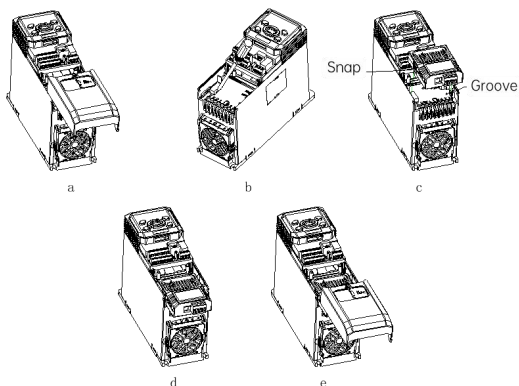

Fig. 4 CANopen option installation steps
(1) When the drive is powered off, press the granulated area on the middle-upper part of the lower cover, slide it down with a certain amount of force to remove the lower cover, as shown in Fig. 4-a.
(2) Use a straight screwdriver to pry open the dust-proof cap, as shown in Fig. 4-b.
(3) Install the CANopen option: hold the expansion box (a bus card inside) upwards (indicators up), align the expansion box with the electrical bus interface in the installation position 2, and press down horizontally to buckle the spring snap of the expansion box into the groove at the lower part of the drive, as shown in Fig. 4-c and Fig. 4-d.
(4) The bus option is successfully installed, as shown in Fig. 4-e.